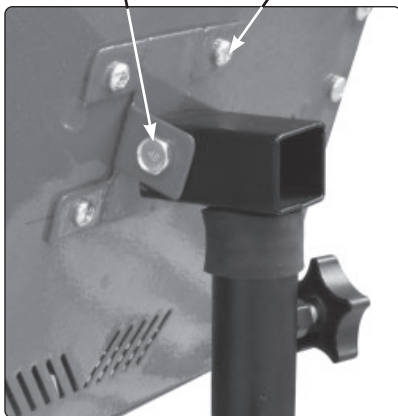

fig.2
- 4.2. Fit adaptor [item 12] to heater swivel bracket [item 14] with M8 hexagon head screw, washer and hexagon stiff nut (items 22, 23, 24 in fig.2). Torque screw to obtain grip without clamping the heater bracket totally. The heater angle can be adjusted about this fixing between constraints.